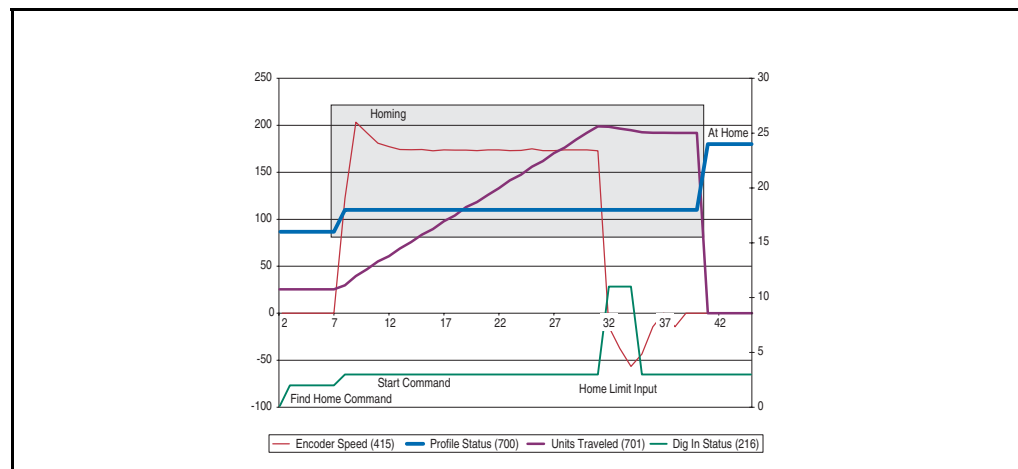

Figure 13.8 – Homing to Marker
Figure 13-8 shows the sequence of operation for homing to a marker pulse. Encoder Z Chan, (423) must be set to “Marker Input” or “Marker Check” for this type of homing